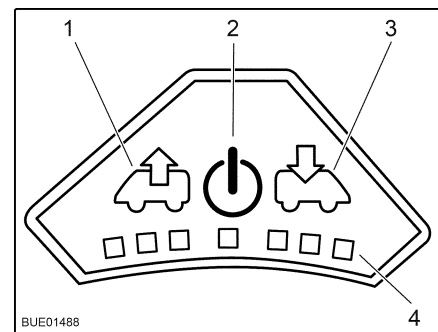

Fig. 36 Control panel for fan
- Press the On/Off button (Fig. 36,2). The fan runs in comfort mode (venting at slowest fan speed).
- To increase the fan speed: Press the Vent button (Fig. 36,1). The fan speed in the venting direction increases by one level. LEDs (Fig. 36,4) show the operating levels.
- To lower the fan speed: Press the Aerate button (Fig. 36,3). The fan speed decreases by one level.
- To increase the fan speed: Press the Aerate button (Fig. 36,3). The fan speed in the aerating direction increases by one step. LEDs (Fig. 36,4) show the operating levels.
- To lower the fan speed: Press the Vent button (Fig. 36,1). The fan speed decreases by one level.
- Press the On/Off button (Fig. 36,2). The fan stops, the LEDs go out.